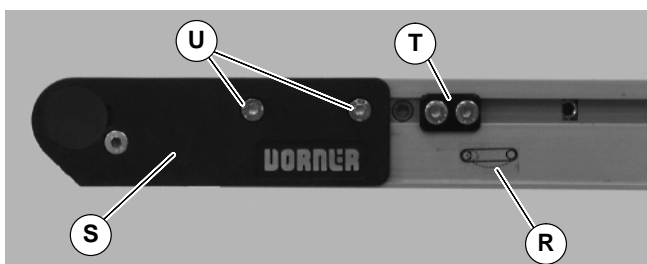

Figure 5
2. On tension end of the conveyor, identified with a  label (R of Figure 5), push in head plate assembly (S): On both sides of conveyor, loosen and move cam tracking assemblies (T) (if equipped) away from head plates, then loosen fastening screws (U) and push head plate assembly inward.
7. If equipped with cam tracking assemblies (T of Figure 5), reposition and adjust belt tracking. Refer to “Conveyor Belt Tracking” on page 12.